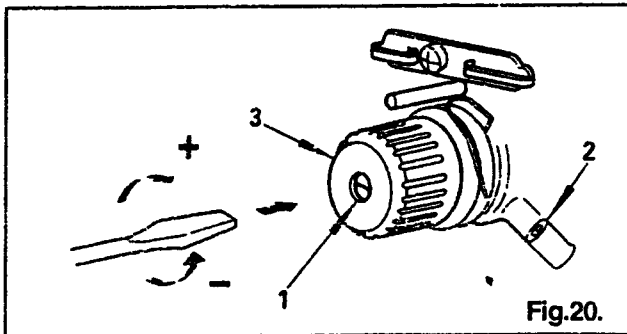

Fig.20.
Using a screwdriver in slot of stud (1), Fig. 20, regulate take-up spring tension by turning stud (1), as required.
To adjust the amount of take-up spring movement, loosen screw (2), Fig. 20, and set take-up spring height by turning the entire tension assembly (3) toward left or right, as required. Securely tighten screw (2).